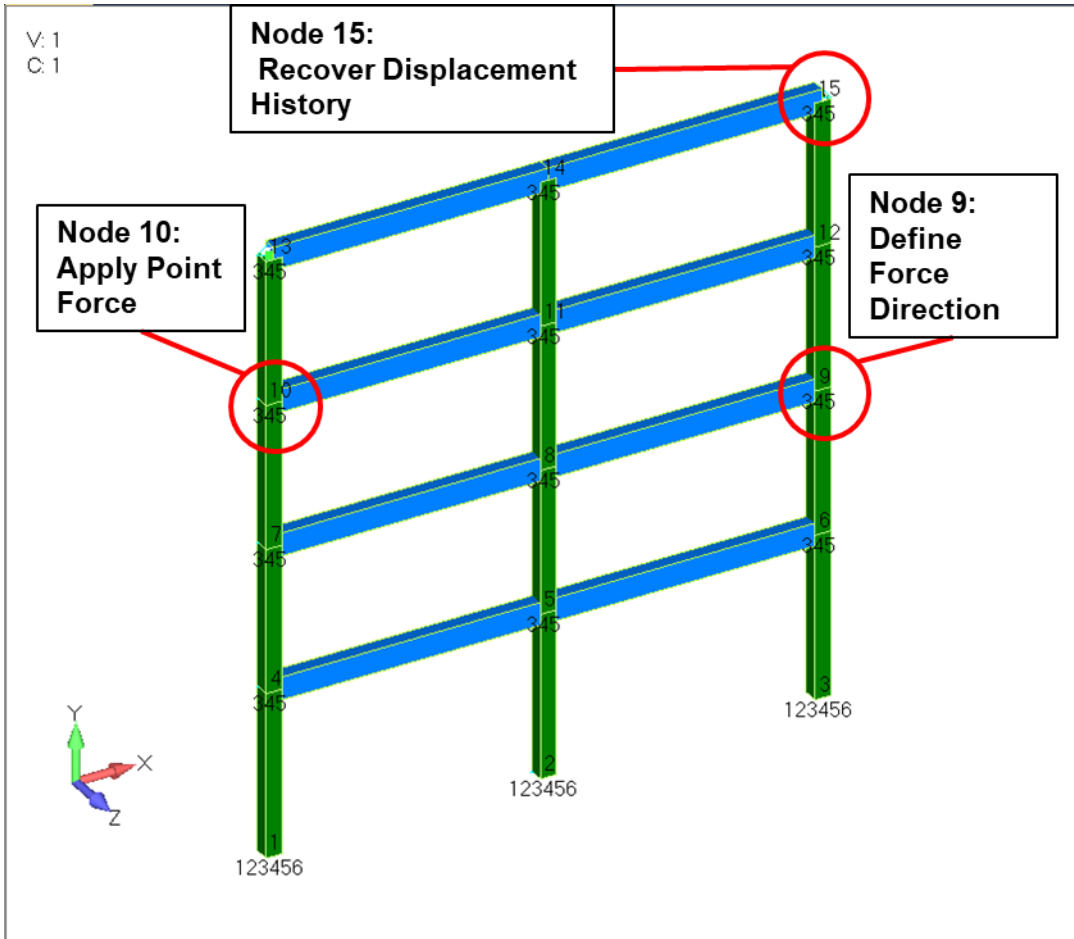

Figure 4-110. Frame model showing nodes of special interest.
1. If you have not already done so for a previous example, import the frame model "frame01\_modes.dat" into Femap. Save the model file as "frame.modfem." Figure 4-110 shows the model with notes about nodes that will be of special interest for this analysis, either for defining input or for recovering physical responses.